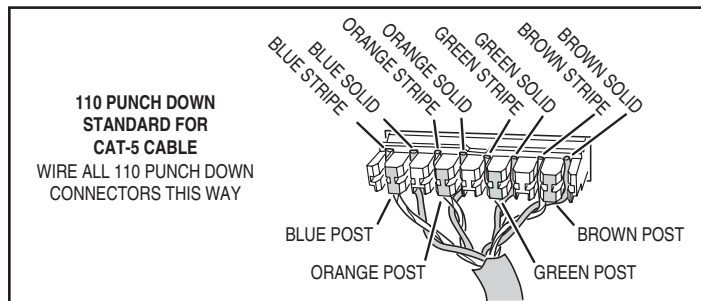
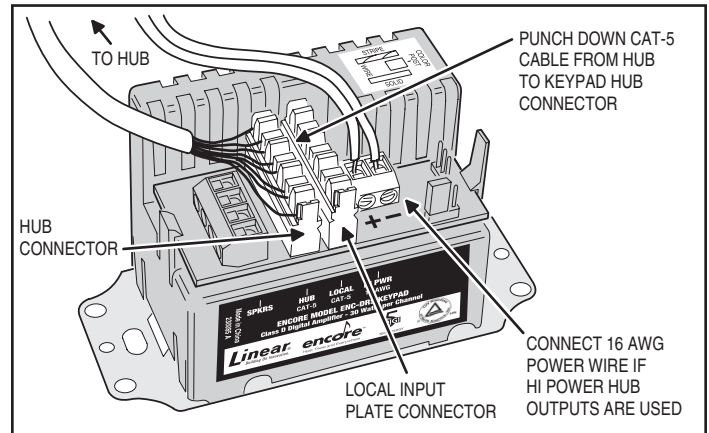

Figure 9. Source Input Wall Plate
Figure 15. Keypad Connections
3. Connect the cable to the Type 110 punch-down **J2 (LOCAL)** connector on the keypad. (See Figure 15 for the connector location, see Figure 9 for the 110 punch down wiring standard.) Use a Type RJ-45 connector on the wall plate end of the cable.